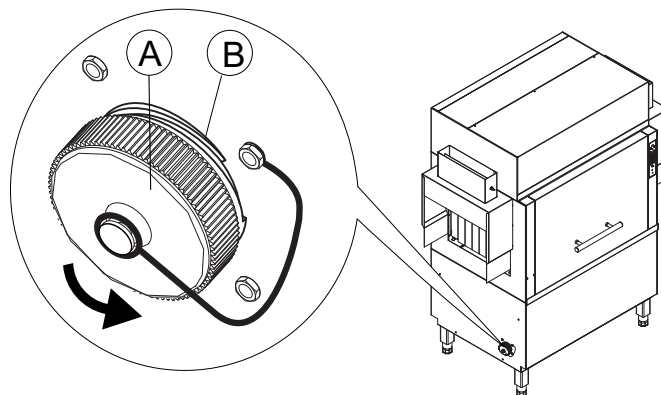

Figure 15 Handling electrical connection system
The left and right side panels of the dishwasher have a connector "B" (Figure 15), closed with a plug "A" (Figure 15), to be used for carrying out the electrical connection of the rack handling systems.
- unscrew plug "A" (Figure 15) anticlockwise;